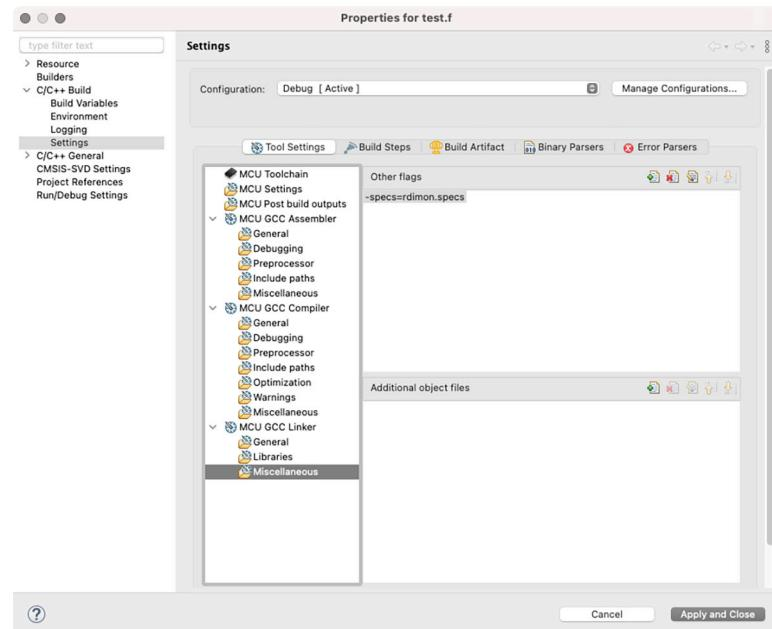

Figure 24.33: Configure the project to link add rdimon.specs flag
4. Update GCC Linker project configuration adding “-specs=rdimon.specs” flag In Miscellaneous as shown in Figure 24.33.